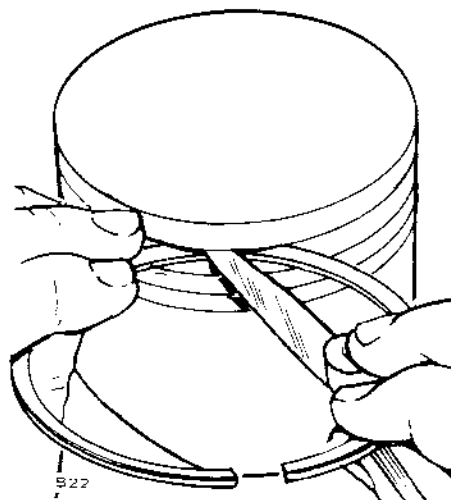

FIGURE 32. CHECKING RING SIDE CLEARANCE
1. Inspect the pistons for fractures at the ring lands, skirts, and pin bosses. Check for wear at the ring lands, using a new ring and feeler gauge as shown in Figure 32. Replace the piston when the side clearance of the top compression ring reaches 0.006 inch.